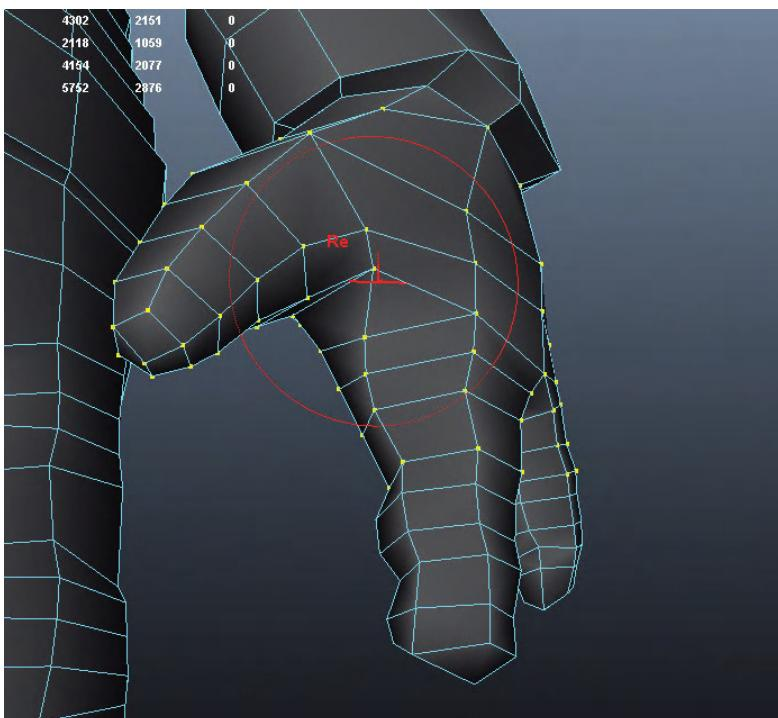

FIG 4.78 Hand completed.
Step 96: Use remaining geometry to create new fingers. This is done using the same techniques as before: rough out the finger, and then go back in and insert edge loops as needed to create the bumps and joints that are part of the hand's anatomy (Fig. 4.78).